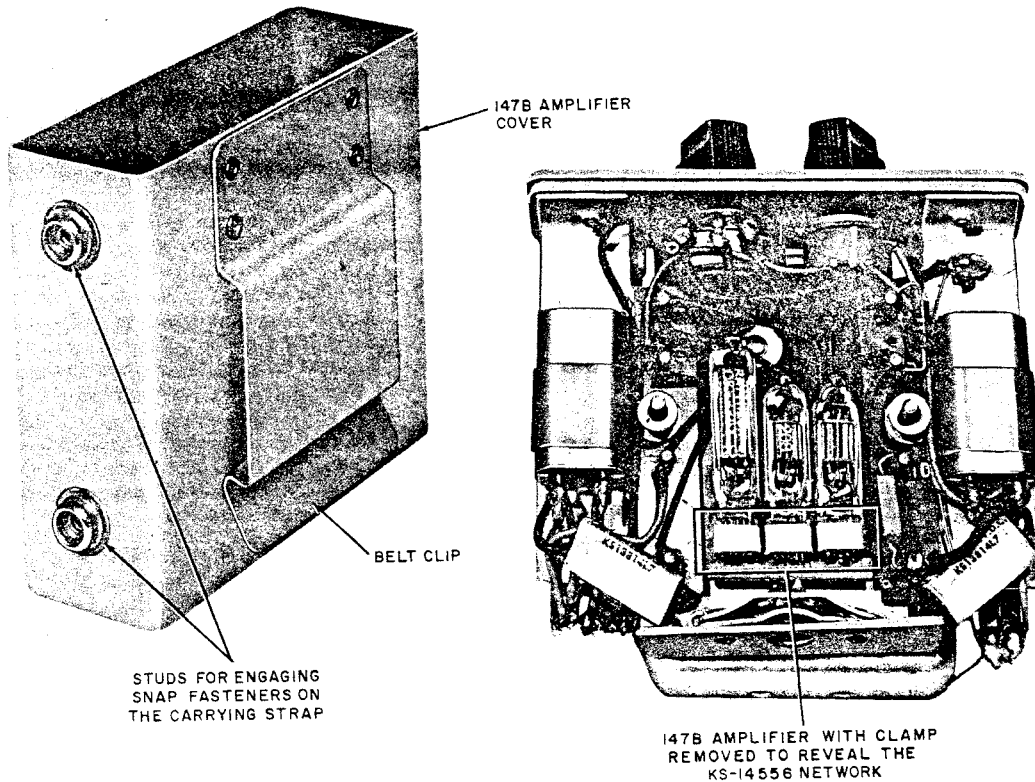

Fig. 3—147B Amplifier (MD)
5.01 The 147B amplifier shown in Fig. 3 is a three-tube dry battery operated amplifier. It is 4 inches by 4 inches by 1-1/2 inches and weighs about 1-1/4 pounds. The three stages of amplification are contained in a network, coded the KS-14556 network. The network consists of a ceramic plate approximately 1-1/4 inches by 1-1/8 inches by 1/16 inch thick on which the resistors and conductors are printed and to which the subminiature electron tube sockets and disc-type capacitors are attached. One CK533AX and two CK534AX (Raytheon) electron tubes are used in the network.
5.04 A defective KS-14556 network should be replaced as a unit. For this purpose the amplifier should be returned in accordance with local routine for making such repairs, or, if authorized, the network can be replaced in the field. To make the replacement, remove the amplifier from the case after turning the lock on the bottom, 1/4 turn counterclockwise. Then position the amplifier as shown in Fig. 3. The defective network should be removed by removing the clamp and unsoldering the seven wire leads from the terminals. The new network should be placed so that the bottom edge is in alignment with the location marks on the terminal strips. Cut the wire leads to the required length and sleeve them with No. 20 varnished tubing. Solder the leads to the same numbered terminals as the defective network without disturbing other solder connections. Insert the CK533AX tube in the left-hand socket and the two CK534AX tubes in the center and right-hand sockets. The red dot on the tubes should align with the red marking on the sockets. New tubes are equipped with 1-1/2 inch leads; these should be cut to 1/4 inch before the tube is placed in the socket. Then replace the clamp.